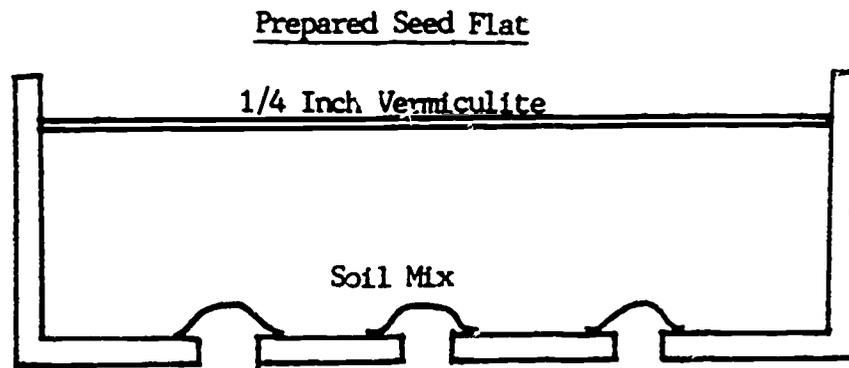

FIGURE 1
- A. Seed flats (see Figure 1) or milk cartons